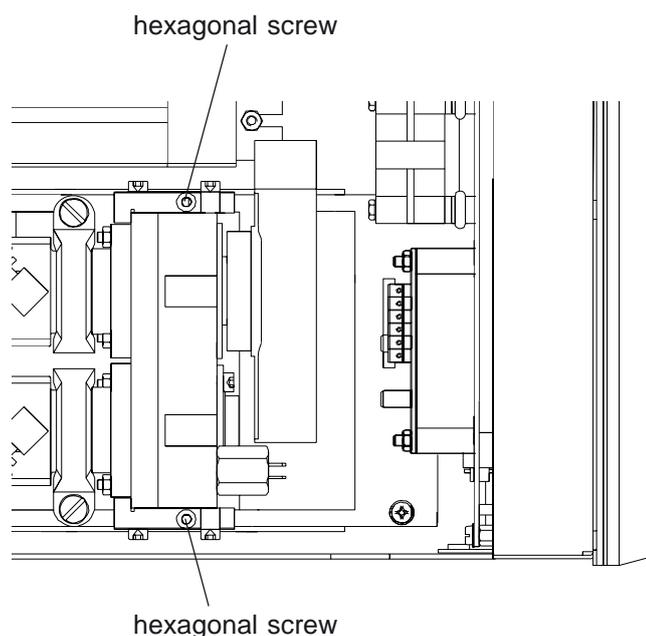

Fig. 17-1: Photometer Assembly, example
- Unscrew both the hexagonal screws shown in Fig. 17-1.
- Insert the photometer assembly into the analyzer housing and fasten in position using the hexagonal screws shown in Fig. 17-1.